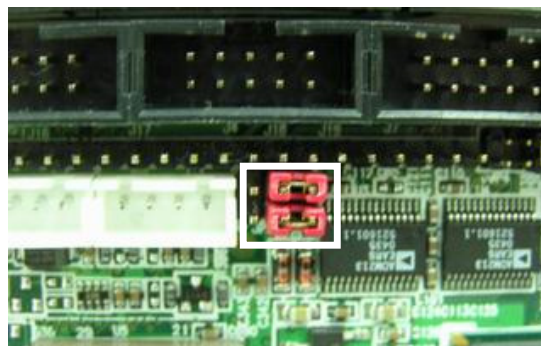

Figure 5-4
Step 3: Please adjust AT/ATX Jumper on JP3 to short 3-5, 4-6 pins, then it can support ATX power scheme. (Figure 5-4)